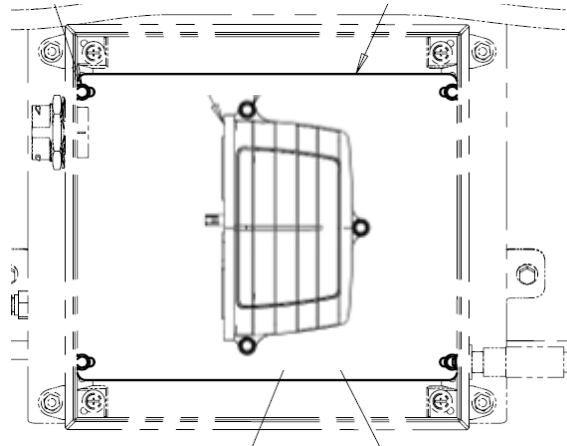

Figure 2: CPAC Bracket and Module Install
6. Locate provided mounting plate (PN: 866418), screws (PN: 14S98008), washers (PN: 50W98000), and nuts (PN: 90N98000). Refer to figure 2.